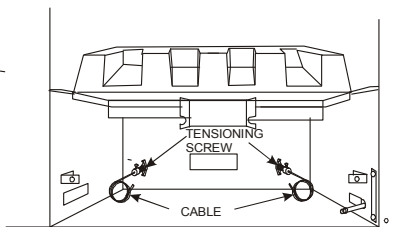

Figure 58
1. Referring to **Figure 58**, unwind the two cables at the rear bottom of the firebox.